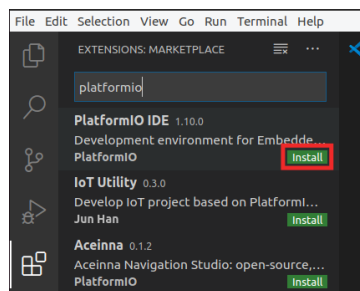

Figure 3. PlatformIO IDE Extension
- d. Type *PlatformIO* in the search box and install the PlatformIO *IDE* by clicking on the install button next to it (see Figure 3).